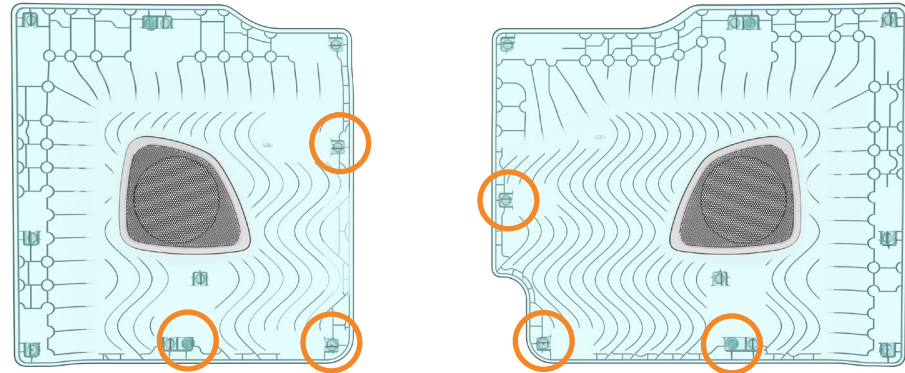
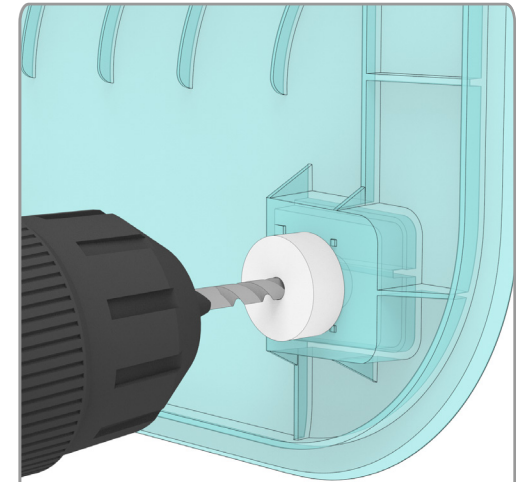

FIG 6
FIG 8
2.3 Drilling Lower Door Panels: Remove three specific clips per panel from the locations shown in **FIG 6**. In the empty locations where these clips were removed, insert the provided **Short Drill Guide (FIG 8)**. Drill completely through the panel using a **1/8" Drill Bit**, feeding it directly through the drill guide. After completing the pilot holes, drill out the holes with a larger **7/16" Drill Bit**.
3.1 Install Upper Mounts: Loosely attach two topmost Window Sill Mounts to the Molle Panel with 1/4-20 Screws (FIG 8+9).